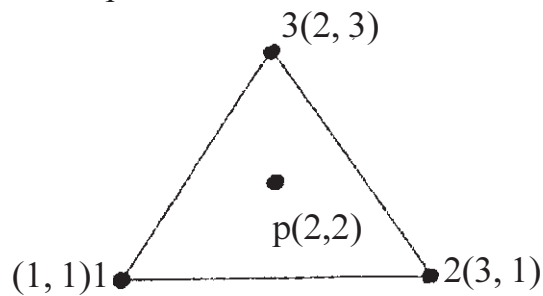

Fig. 6b
- b)** For the triangular element as shown in fig. 6b the nodal values of displacements at node 1, 2 and 3 are (2, 1), (3, 2) and (5, 3) respectively. For point (2, 2) within the element, determine [10]